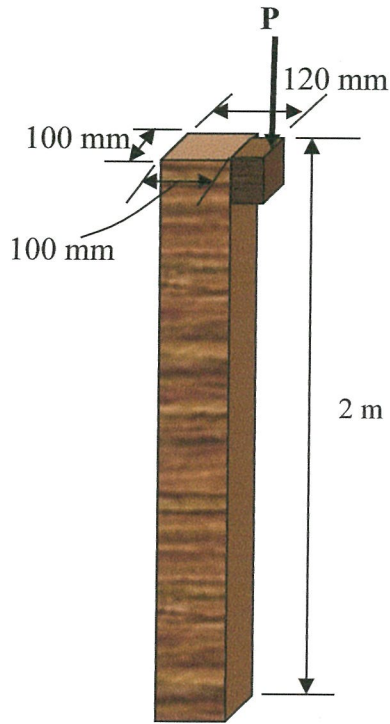

Figure Q5(b)
- (b) **Figure Q5(b)** shows the wood column has a square cross section with dimensions (**100 mm x 100 mm**). It is fixed at its based and free at its top. Determine the load P that can be applied to the edge of the column without causing the column to fail either by buckling or by yielding. Given **$E_w = 12 \text{ GPa}$** and **$\sigma_y = 55 \text{ MPa}$** . (14 marks)